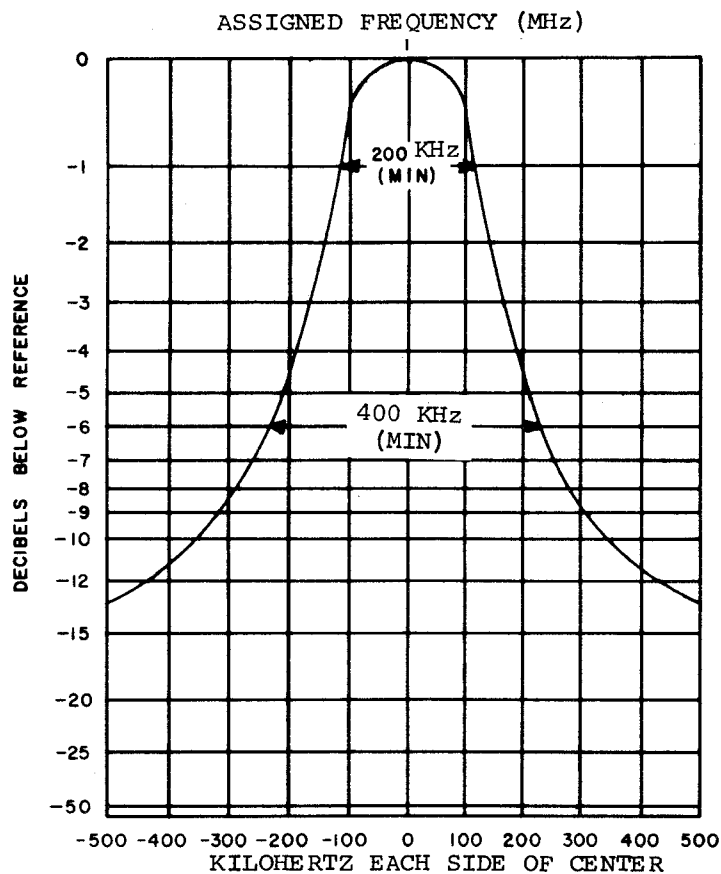

Figure 2-12 Antenna Coupler CU-1559/SRC Selectivity Curves
- q. SELECTIVITY. - See Figure 2-12.